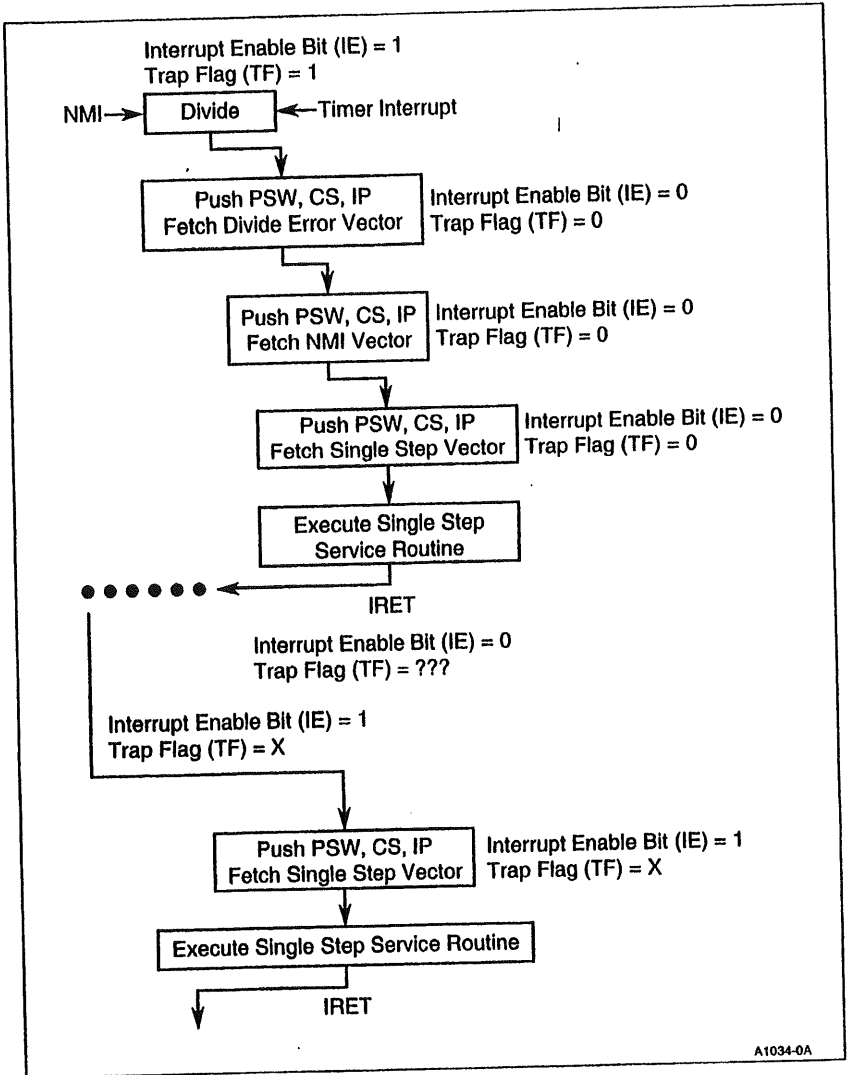

Figure 2-30. Simultaneous NMI, Single Step and Maskable Interrupt
The most complicated case is when an NMI, a maskable interrupt, a single step and another exception are pending on the same instruction boundary. Figure 2-30 shows how this case is prioritized by the CPU. Note that if the single-step routine sets the Trap Flag (TF) bit before executing the IRET instruction, the NMI routine will also be single stepped.